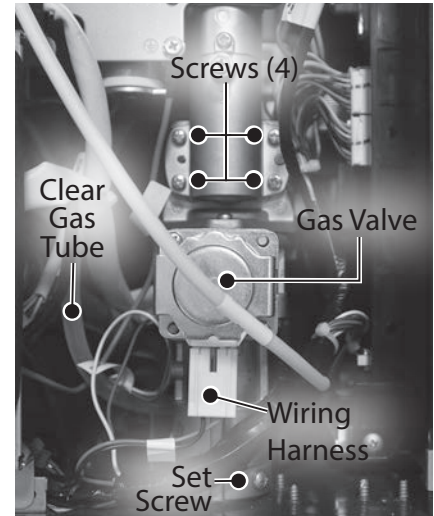

Figure 89 - Gas valve location and connections
- 16 Locate the gas valve at the bottom right side of the water heater. See Figure 89.